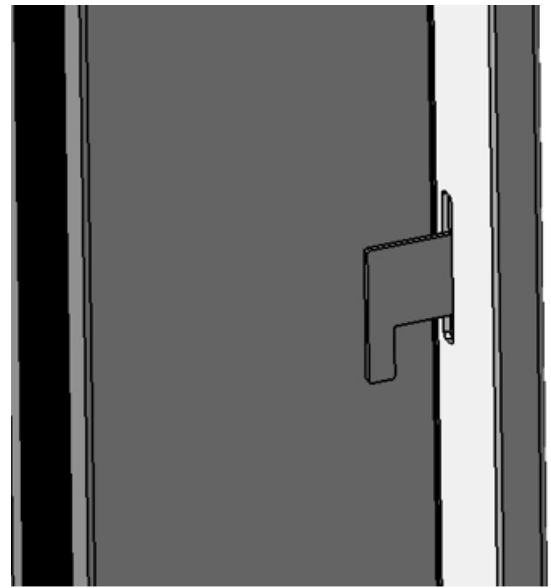

Figure 21
11. a. Slide the left Side Trim into place by carefully guiding the Side Trim hooks through the Side Trim Attachment slots. Figure 21 shows an inside view.